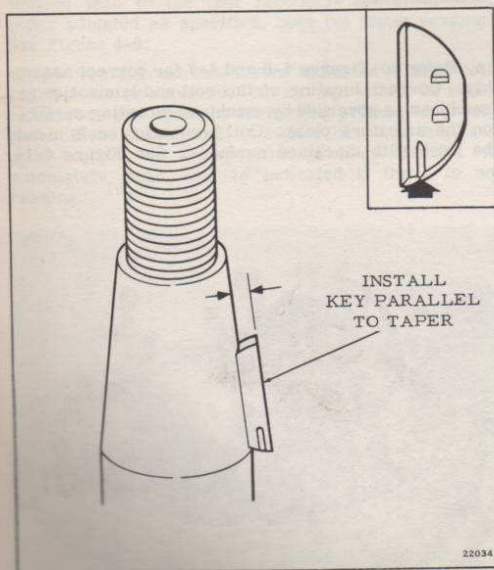

Figure 4-16. Flywheel Key Position
- a. If flywheel key has been removed, reassemble to crankshaft with outer edge parallel to taper. See Figure 4-16.
Be sure that the single upset mark on the side of the key is facing down. See Figure 4-16. Incorrect installation of the key will affect cam position and ignition timing.